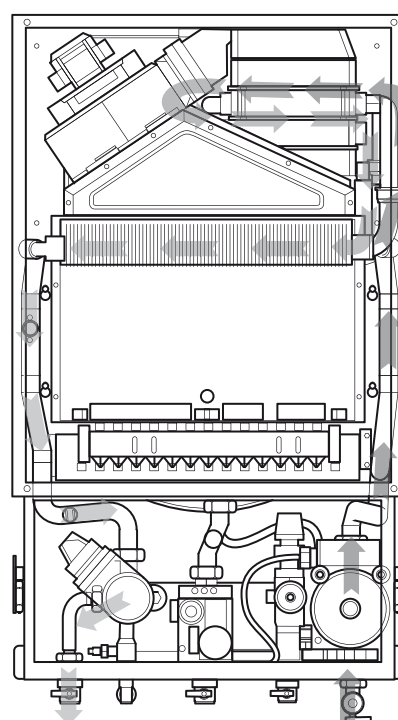

Figure 2a
4.2 Depending on demand water is either diverted via the three port valve to the secondary water-to-water heat exchanger for domestic hot water or directly to the heating system. Schematic diagrams showing the flow within the boiler's central heating hydraulic circuit figure 2a and D.H.W. hydraulic circuit figure 2b are given.